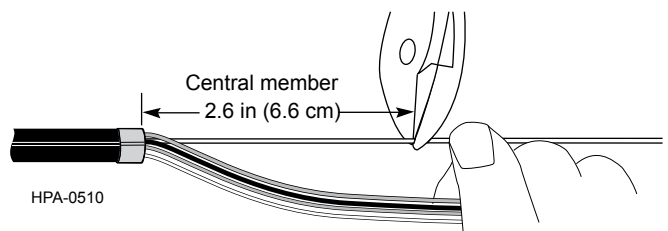

Figure 20
Step 9: Use side cutters to cut the dielectric central member to a length of 2.6 in (6.6 cm) from each end of the cable sheath (Figure 20).